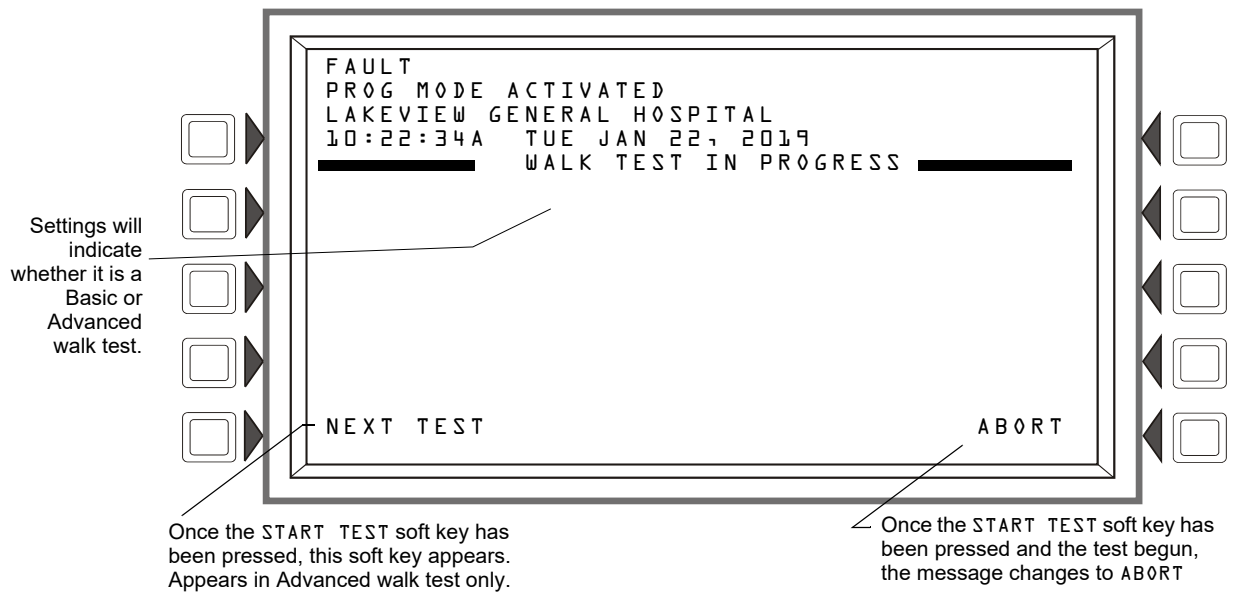

Figure 2.15 Walk Test In Progress Screen
**NEXT TEST:** This key appears for Advanced Walk Tests when the panel parameter is chosen at the Walk Test Menu Screen. Refer to Figure 2.15 for the location of this key. Press it to progress from one activation to the next, latching the new point and releasing the latch on the previous point.